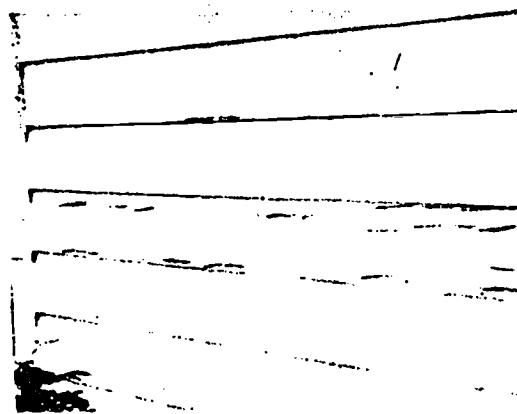

Figure 11. Abnormal deterioration.
c. Peculiarities of Wood. Economy, or availability, often dictates the use of woods in group 4 for structures that must be kept painted. On such woods, paint in a given stage of deterioration reveals its condition more conspicuously than woods of groups 1 and 2. Look at the surface shown in figure 11. You can see that replacement of the board nearly bare of paint would make the next paint job on this building last much longer with satisfactory appearance.